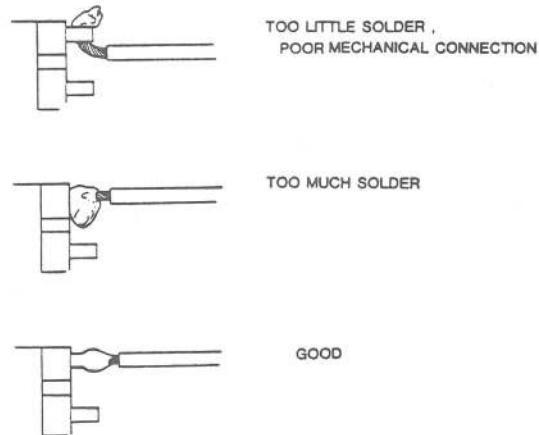

FIGURE 7
- c) Check your solder joints. (See Figure 7 for examples of good and bad solder joints.)